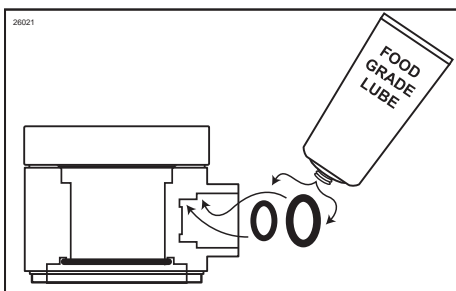

Figure 98
- Apply food-grade lube to the two syrup port o-rings and then place them into their respective places inside the syrup port. A small tool may be used to ensure the o-rings are fully seated in the grooves. (See Figure 98.)